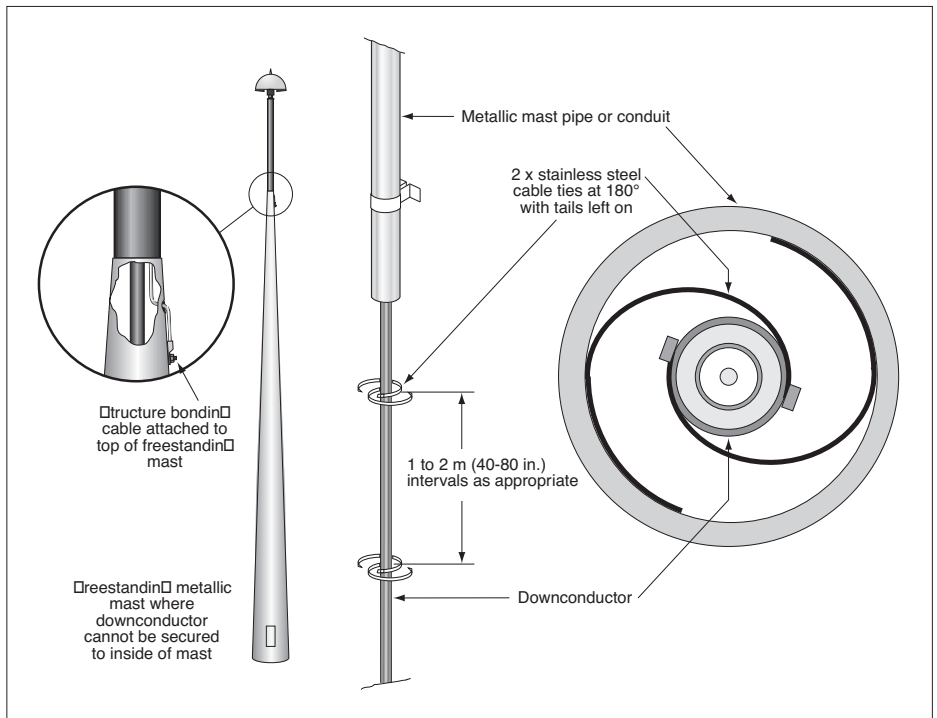

Figure 17: Electrical bonding of downconductor within metallic mast section or pipe.
- This includes routing inside any type of conductive pipe or conduit, (see Fig. 17).
- When mechanical fastening of the cable every 2 m (80 in) is not possible, a maximum unsupported length of 35 m (114 ft) is allowed as long as the installation adheres to the electrical bonding requirements (see use of cable ties in figure 17).
Also, when using a metallic mast (ie: free standing light pole), the structure bonding braid must be connected to the top of the metallic mast using 6 mm² (8 AWG) insulated copper cable, (see figure 17).
To bond the downconductor inside a conductive non-ferromagnetic mast pipe or conduit, secure two stainless steel cable ties around the downconductor at every 1 m (40 in.) or at 2 m (80 in.) intervals with their tails left on, aligned at 180° to each other so that when fed into the pipe, they maintain contact with the inside wall of the pipe, (see figure 17). The maximum length of the cable installed inside the mast pipe or conduit should not exceed 35 m (114 ft).